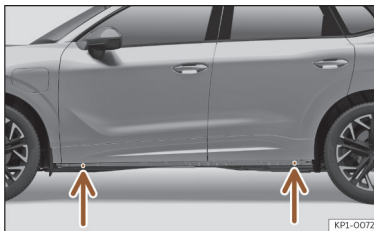

Fig. 244 Jack position points.
- Look on the crossbar for the mark of the jack support point (sunken area) closest to the wheel to be changed >>> **Fig. 244**.